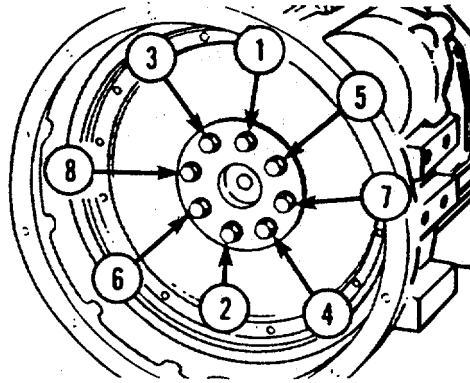

FIGURE 3-92. Tightening Sequence.
- h. Refer to FIGURE 3-92 for tightening sequence.